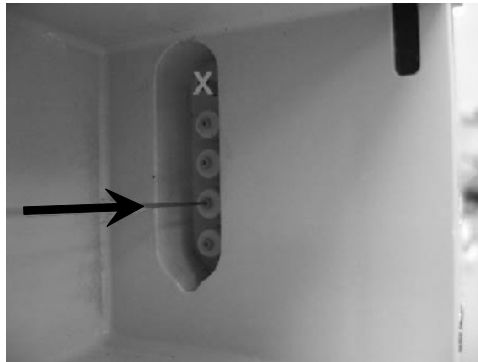

Fig. 7-58 Insert stylette into the fluid pack ports.
4. Remove the fluid pack receptacle. Insert the stylette into the bottom four ports (Fig. 7-58).